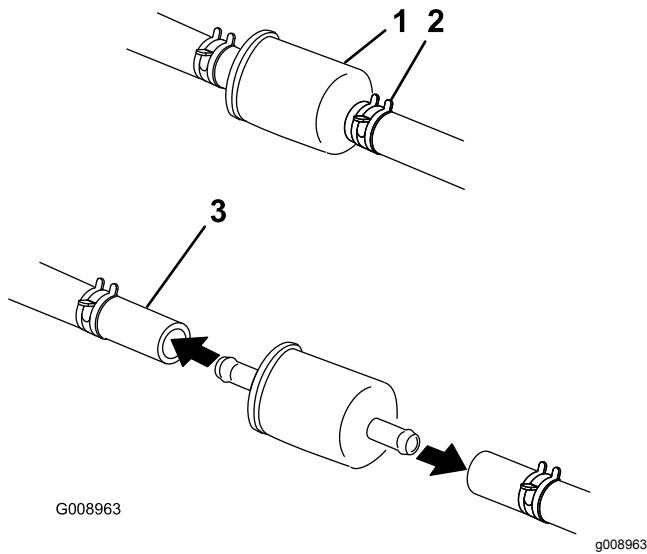

Figure 37
5. Squeeze the ends of the hose clamps together and slide them away from the filter (Figure 37).
7. Install a new filter and move the hose clamps close to the filter (Figure 37).